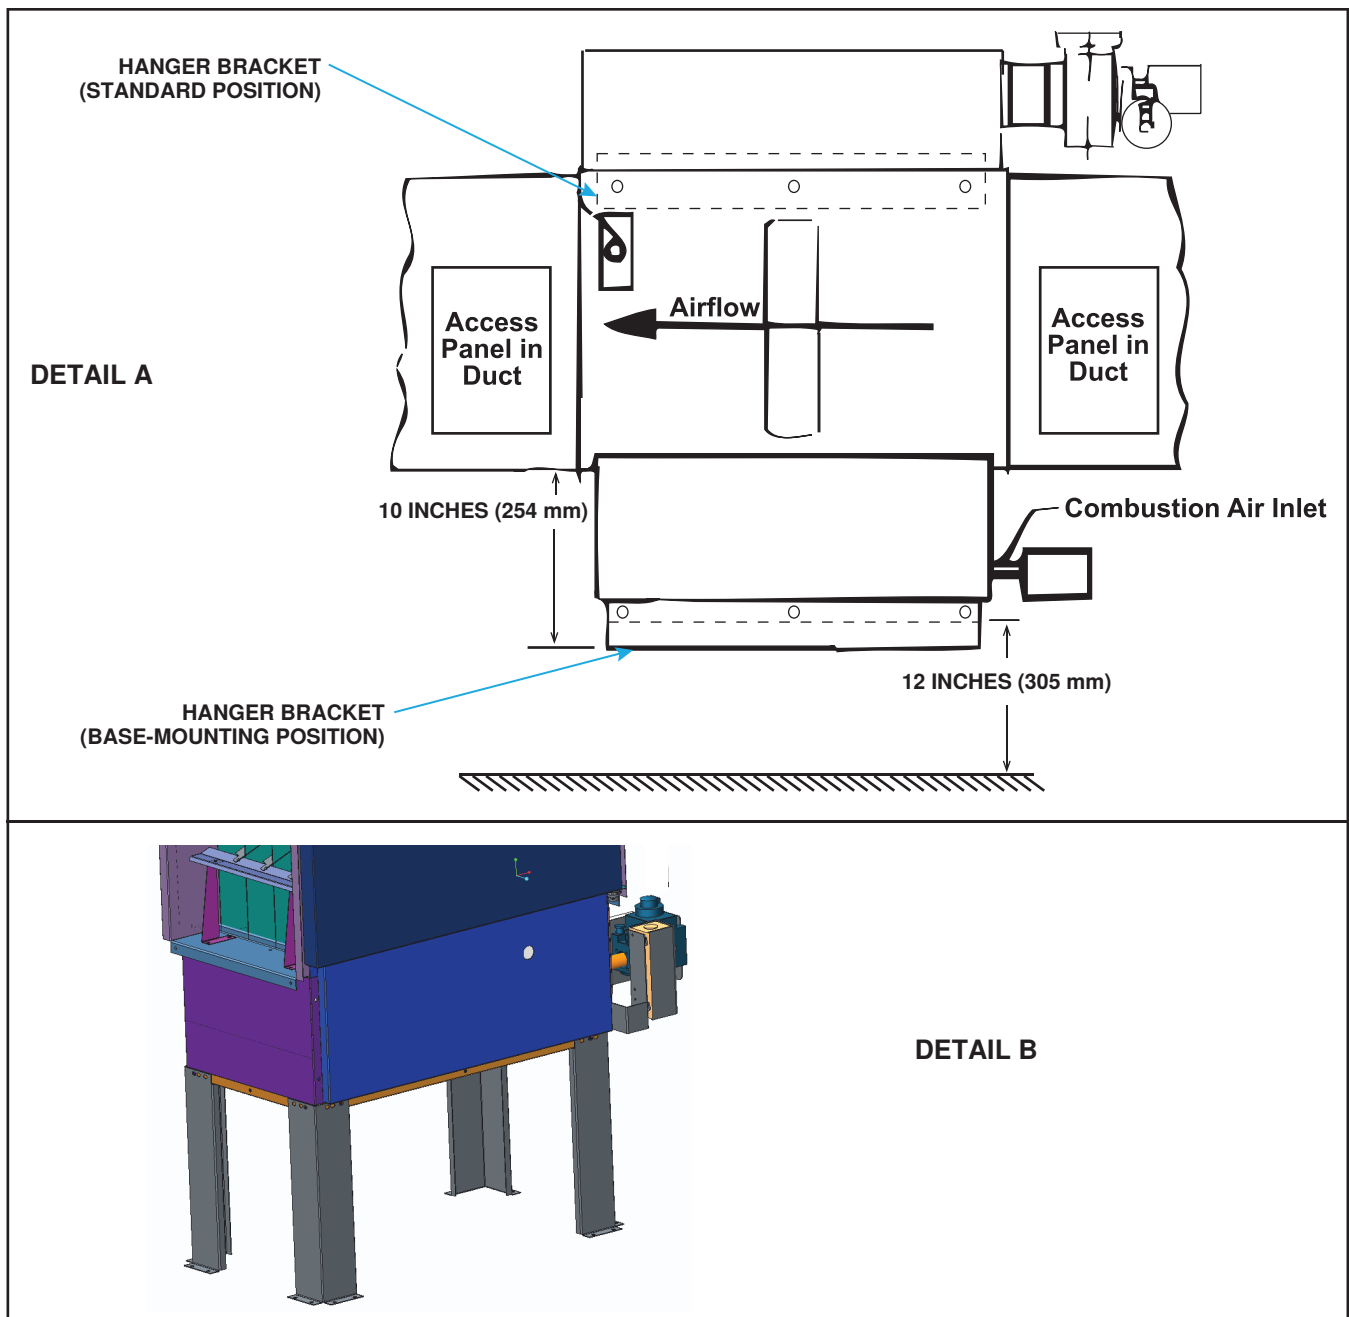

Figure 10. Base-Mounting Single Furnace
1. Remove two hanger brackets from their standard positions and install them at their base-mounting positions as shown in Figure 10, DETAIL A.
2. Install four leg brackets (see Figure 10, DETAIL B) from base-mounting kit (PN 1034022). Secure leg brackets with screws provided in existing holes in front. Drill new leg bracket holes in rear.